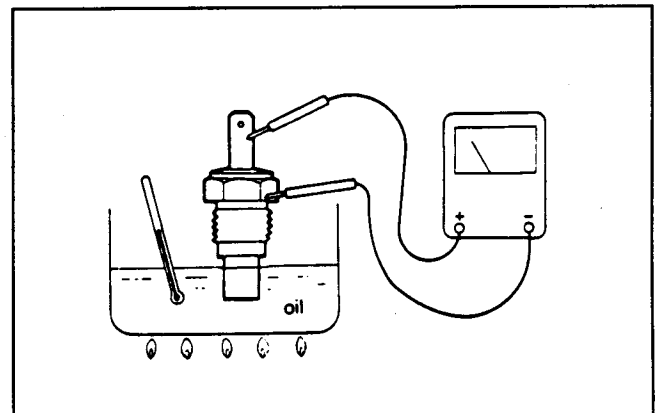

Figure 17a
2. Put the switch in a container of oil with a thermometer and heat the oil (Fig. 17a).